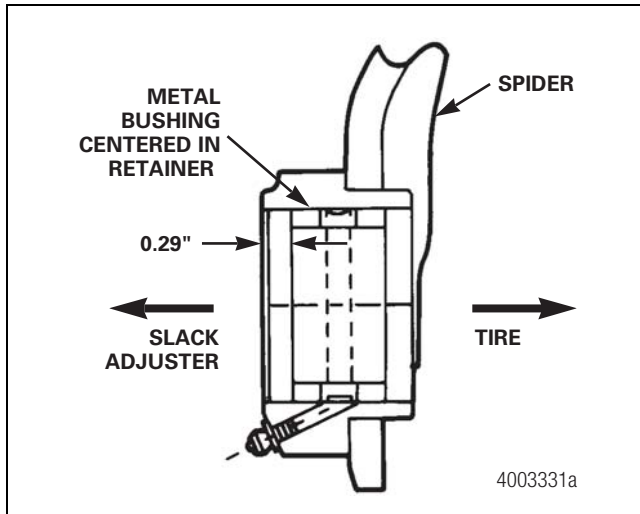

Figure 12.30
- B. For metal bushings, drive a metal bushing into the retainer bore until it is centered in the retainer as detailed below. Figure 12.30.